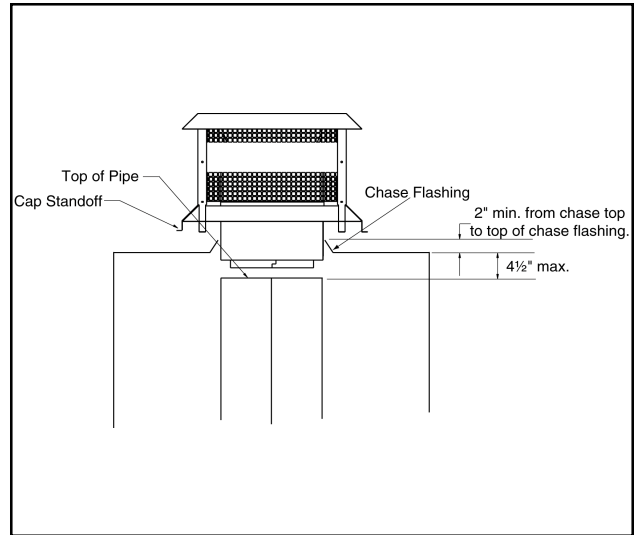

Figure 24 - Installing an ST375 Square Termination Cap
- c. For installations utilizing an ST375 square termination cap the last chimney section must not be more than 4½" below the chase top. See Figure 24.